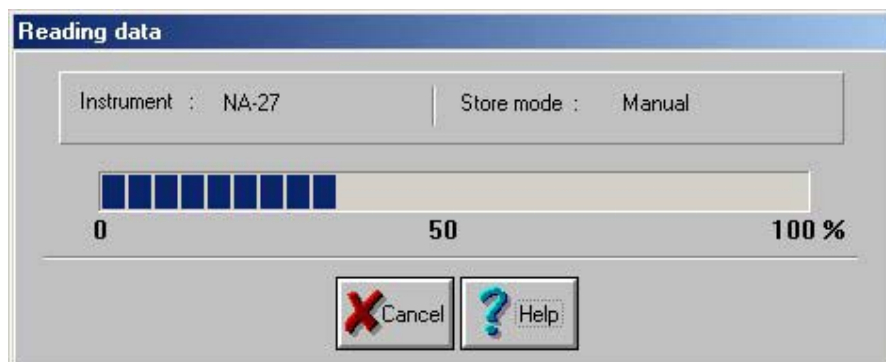

Fig. 4: Data Download Progress Bar
11. A progress bar titled 'Reading data' appears next (See Fig. 4) and will disappear once all of the selected data has been downloaded to the PC.